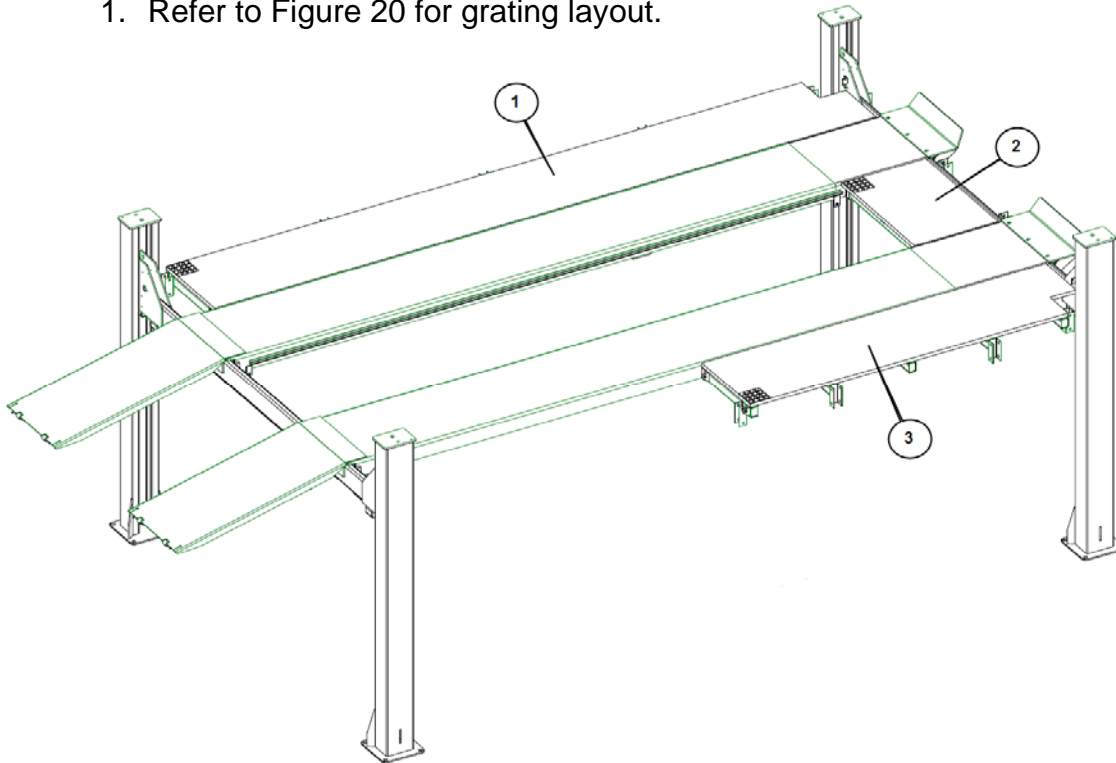

Figure 20 – Grating placement
1. Refer to Figure 20 for grating layout.